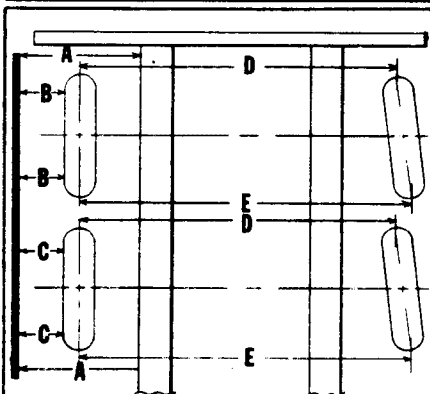
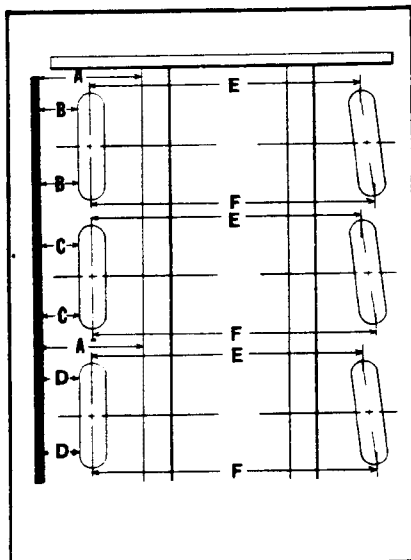

Fig. 4
Fig. 5
- (b) Turn steering wheel until the left tires are in line with each other and are straight ahead with respect to the carrier. Figs. 4 & 5 illustrate one method of checking step (b). This involves placing a straight edge parallel to the carrier by measuring a distance (A) at each end of the straight edge. Once the proper position of the straight edge is determined, measure the distance between the straight edge and the milled surface of the wheel hub used to locate the tire lugs. These dimensions are represented by the letters (B) & (C) in Fig. 4, and the letters (B), (C), and (D) in Fig. 5. Distances (B) must equal (B), and (C) must equal (C), but (B) doesn't necessarily have to equal (C). A drag link adjustment may be necessary to correct any misalignment.
- (c) Once the front left tires are lined up, check for proper toe in. Toe in can be checked by scribing a line around the circumference of the tire tread at the centerline of the tire tread. The difference between the distances (D) on the front and (E) on the back. (E and F in Fig. 5) indicate the amount of "toe in" and should equal $1/8" + 1/32"$. A tie rod adjustment will correct any toe in variations.